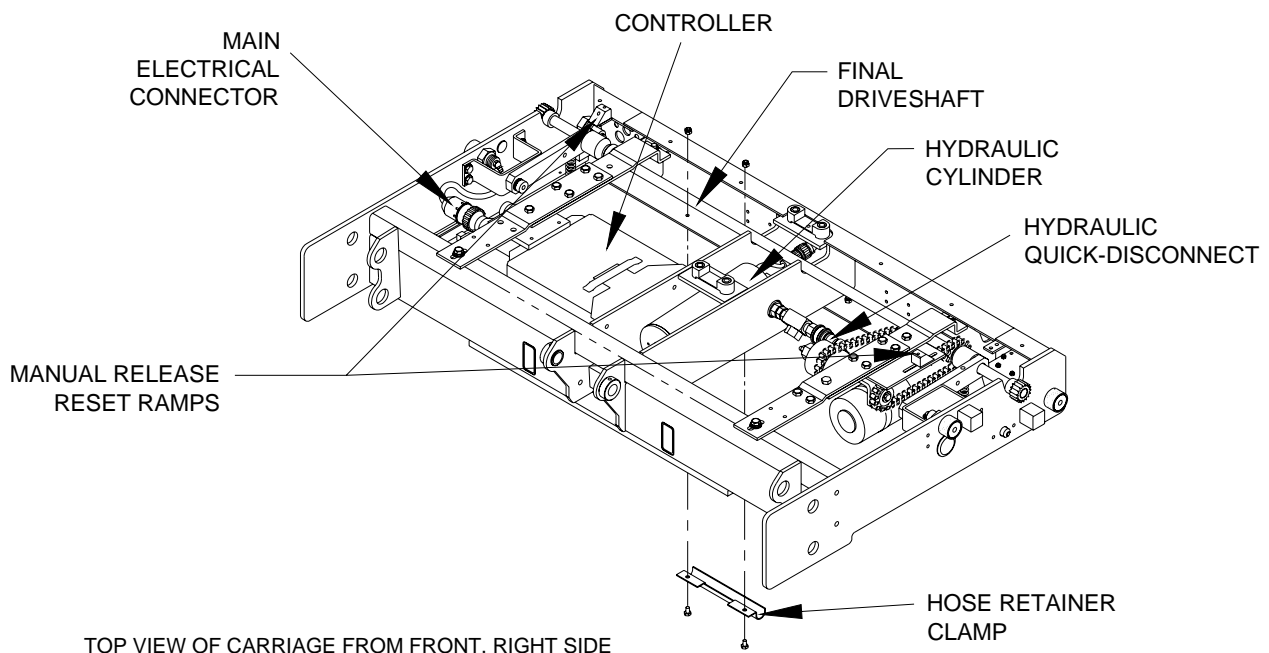

FIGURE 4-15: CARRIAGE COMPONENTS
- f. Refer to **Figure 4-15**. Verify that platform release shafts are in the engaged position (rotated in the direction opposite to what is indicated on adjacent decal). Deflect final driveshaft downward to disengage its pinion gears from gear rack. Use nylon tie-wraps, or similar, to hold driveshaft disengaged.